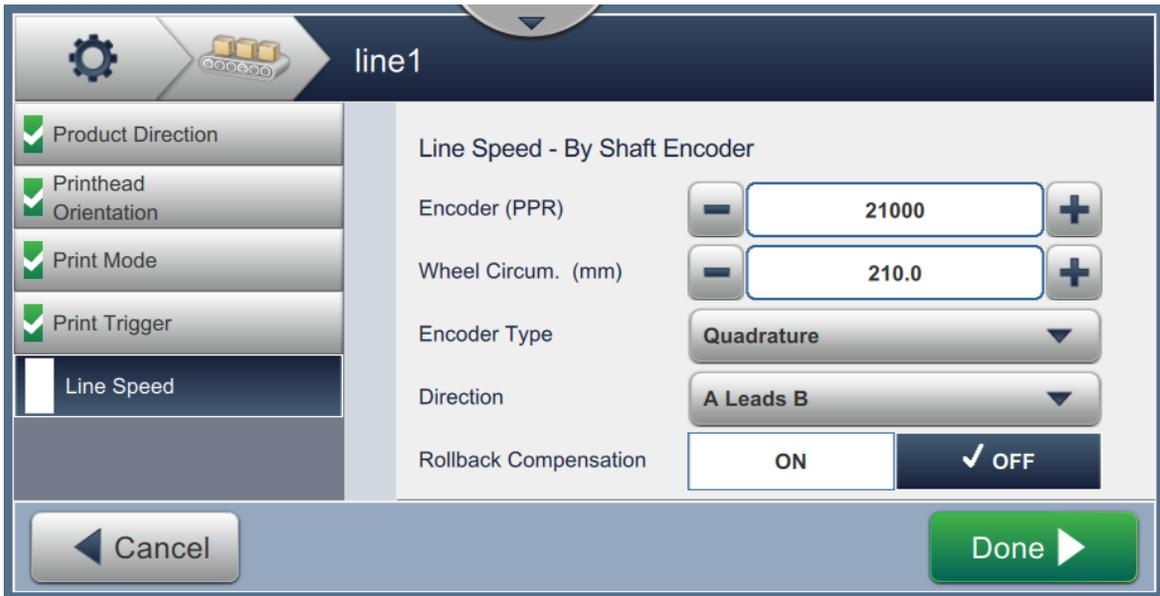

Figure 4-28: Encoder Signal Type
4. Select the Measured by Shaft Encoder option and touch the *Next* button. The shaft encoder setup screen is displayed shown in Figure 4-28.
5. Enter the Encoder (PPR) and Wheel Circumference (mm) as shown in Figure 4-28.
9. Touch the *ON* button to enable the rollback compensation option as shown in Figure 4-28 on page 4-30.